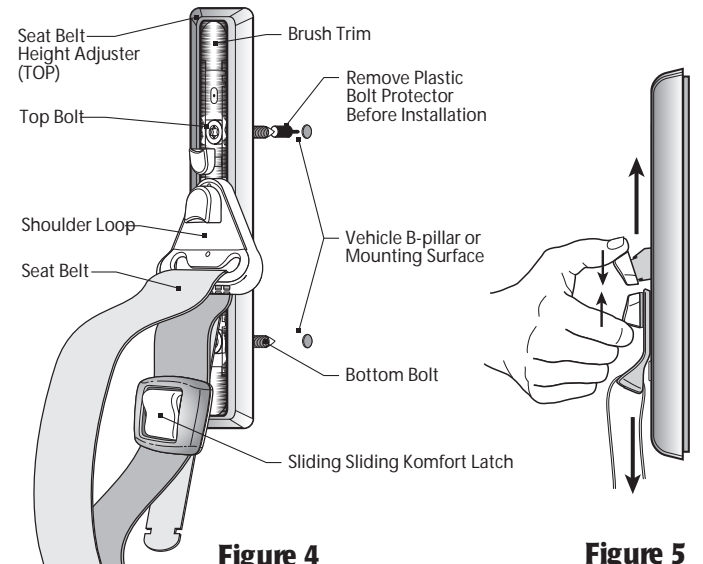

Figure 4
2. Align seat belt height adjuster bolts with 2 threaded mounting holes in vehicle B-pillar or mounting surface. See Figure 4.